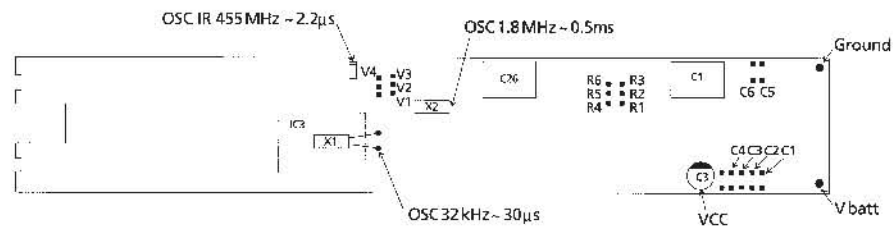

Fig. 2
- Check the SMD crystal X2 with an oscilloscope; the test point is shown in fig. 2. When actuating one of the keys <<, >>, ^, v, ▲, ▼, yellow, blue, green, red, LIST and •, the crystal oscillates constantly at 1.82MHz, corresponding to a period of approx. 0.5µs. When the other keys are actuated, the crystal oscillates at only approx. 300ms.